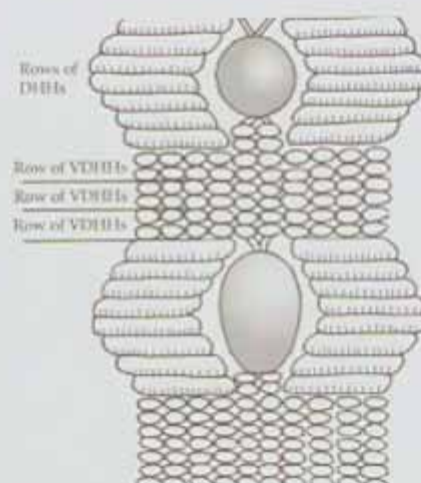

Fig. 21
1. All of the projects are comprised in large part with rows of Horizontal, Diagonal, or Vertical Double Half Hitches. Frequently, the diagrams will depict the rows of horizontal and diagonal **DHHs** as long unified bars and will not show each individual knot (see Figures 21 & 23).
2. The diagrams of Vertical Double Half Hitches (**VDHHs**) will usually show the details of every knot (see Figure 21).